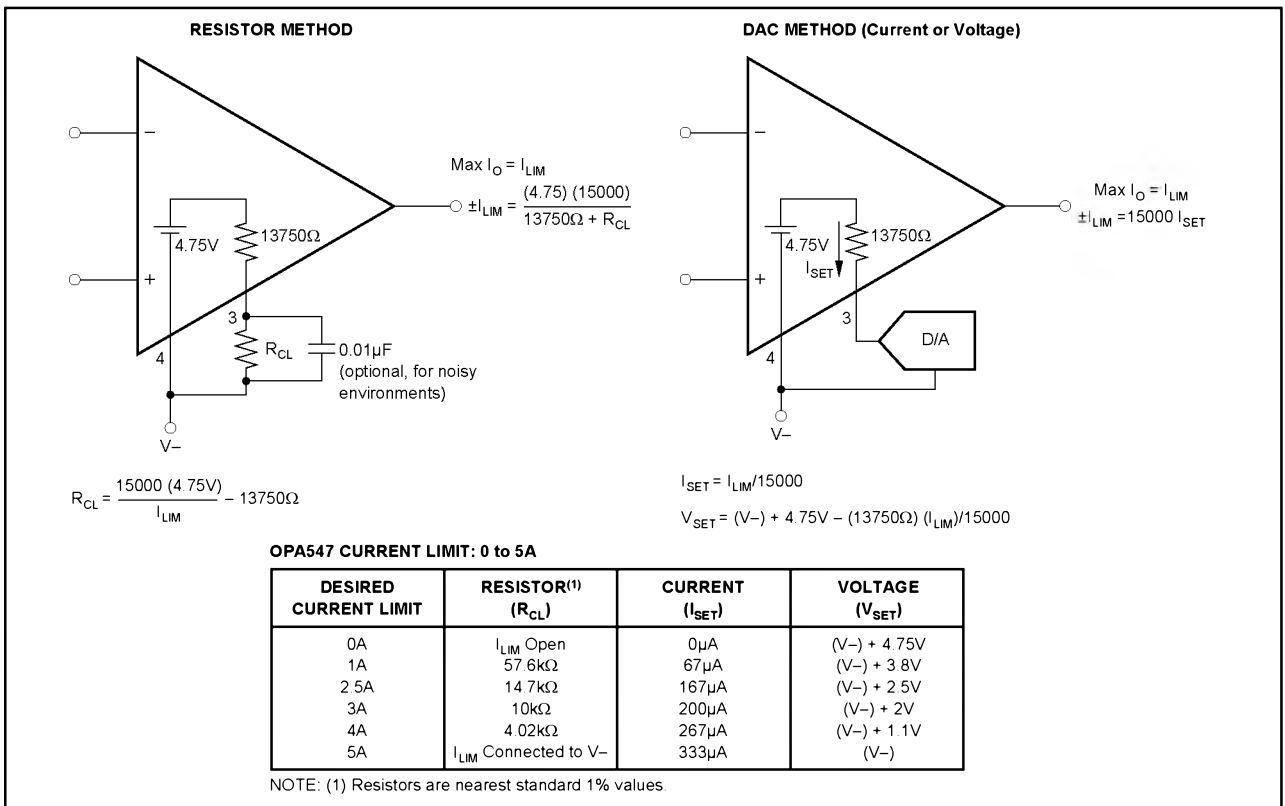

FIGURE 3. Adjustable Current Limit.
Figure 3 shows a simplified schematic of the internal circuitry used to set the current limit. Leaving the  $I_{LIM}$  pin open programs the output current to zero, while connecting  $I_{LIM}$  directly to V- programs the maximum output current limit, typically 5A.
NOTES: (1) Works well for  $G < 10$ . Input offset causes output current to flow between amplifiers with  $G > 10$ . Gains (resistor ratios) of the two amplifiers should be carefully matched to ensure equal current sharing. (2) As configured ( $I_{LIM}$  connected to  $V_-$ ) output current limit is set to 10A (peak). Each amplifier is limited to 5A (peak). Other current limit values may be obtained, see Figure 3, "Adjustable Current Limit".